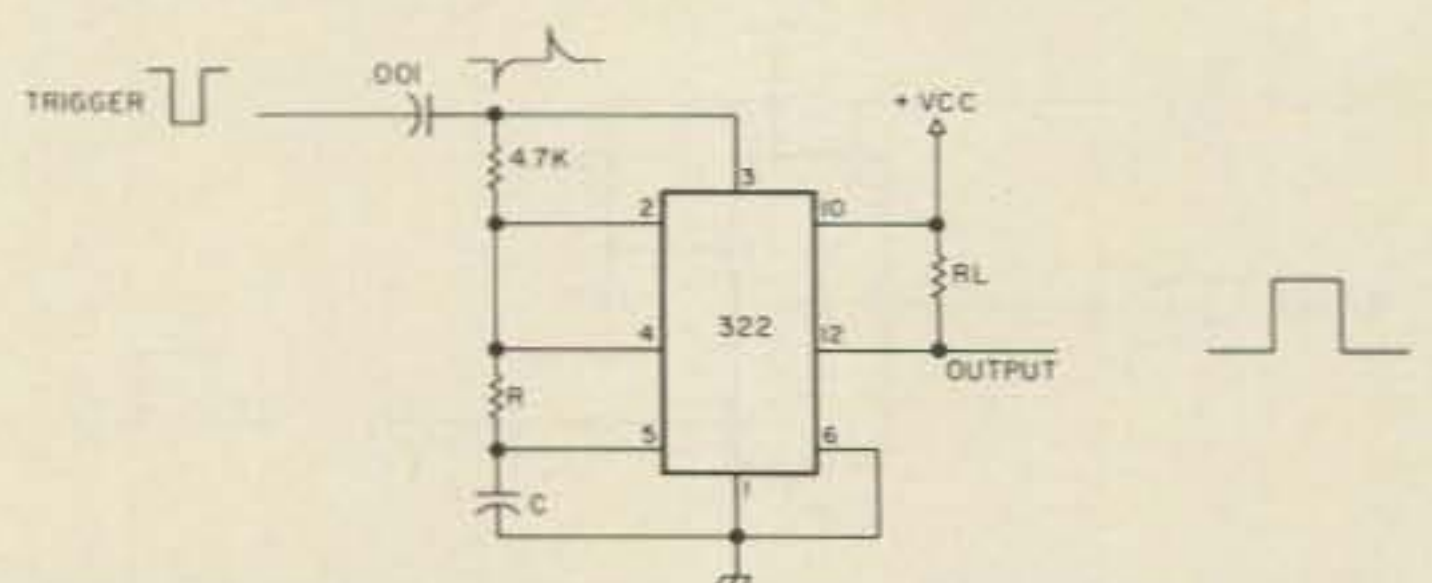

Fig. 18. Triggering with negative edge.
Although this timer is triggered by a positive-going pulse, as shown in Fig. 18, a differentiator tied to a normally high trigger pulse will result in a negative-edge triggered monostable. However, there is a delay in the appearance of the output pulse when the timer is negative-edge triggered, approximately in the range of 0.5 to 1.5 (RC).